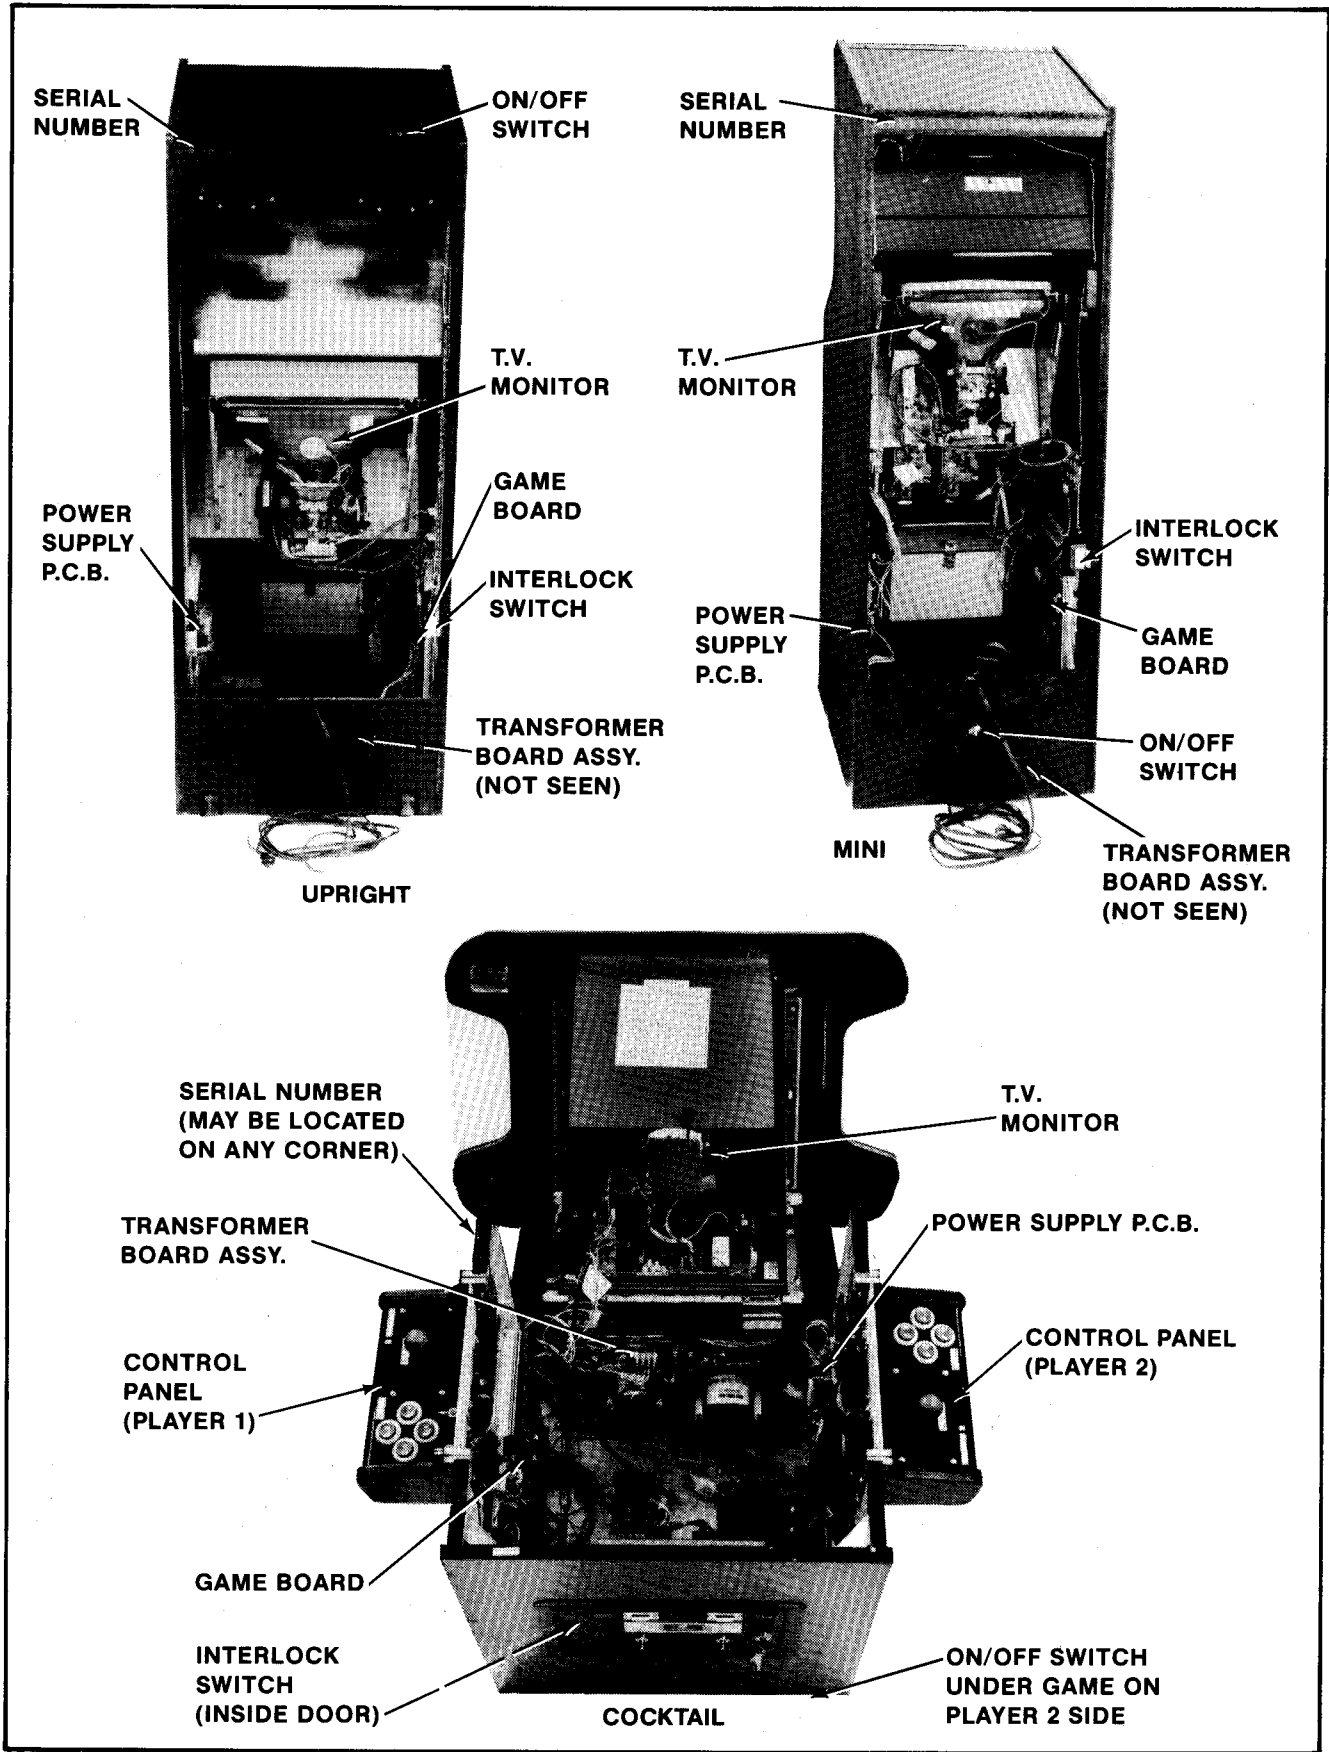

Figure 2-1 Location of Serial No., Interlock Switch, On/Off Switch & Major Sub-Assys.
5. Open the cabinet and inspect the inside of the game for any signs of damage. See Figure 2-1.
- Make sure all printed circuit boards (P.C.B.'s) are firmly seated in their connectors. See Figure 2-1. These connectors are also keyed. The P.C.B.'s will only go into them one way without being damaged.
- Note the location of the game's serial number. See Figure 2-1.
- Check all major subassemblies to be sure they are mounted securely. These are called out in Figures 2-1 & 2-2.
### 3. Interlock and power ON/OFF switches. See Figure 2-1.
The game ON/OFF switches for all models are located as shown in Figure 2-1. Turn the game on and allow it to warm up a few minutes.